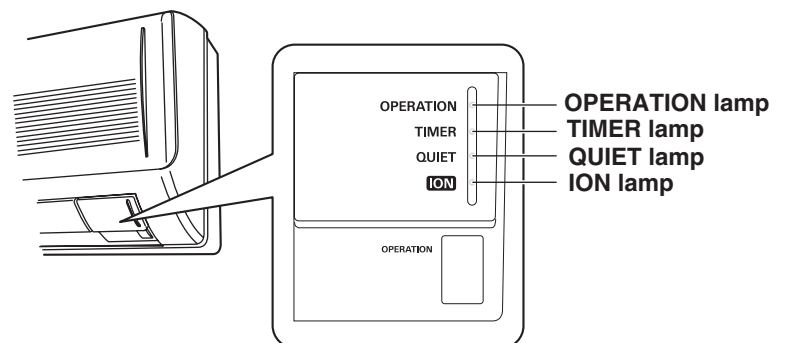

Fig. 8c
- This starts the fan producing uncooled forced air with the 4 indicator lamps (OPERATION lamp, TIMER lamp, QUIET lamp, and ION lamp) on the main unit blinking. (Fig. 8c)